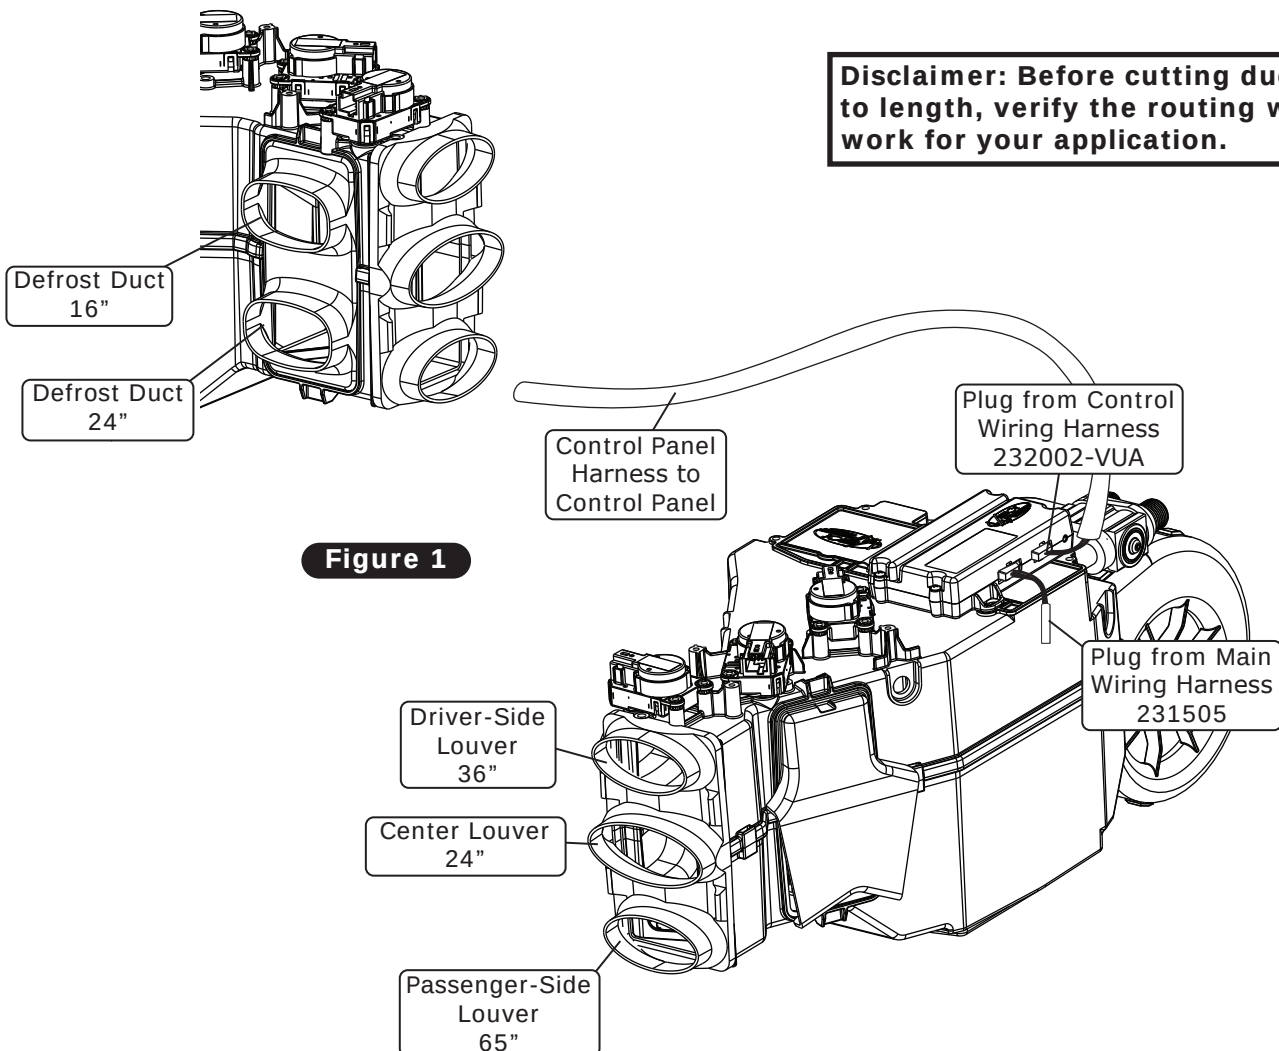

Figure 1
2. Refer to Figure 1, below, for duct hose routing.
3. Attach 2 ½" and 3" duct hose to hose adapters and connect to the evaporator as shown in Figure 1, below.
1. Install duct hoses as shown in Figure 1, Page 26.
3. Insert the new glove box assembly open side up, right side first. Rotate the glove box assembly forward into position, lining up the (4) mounting holes.